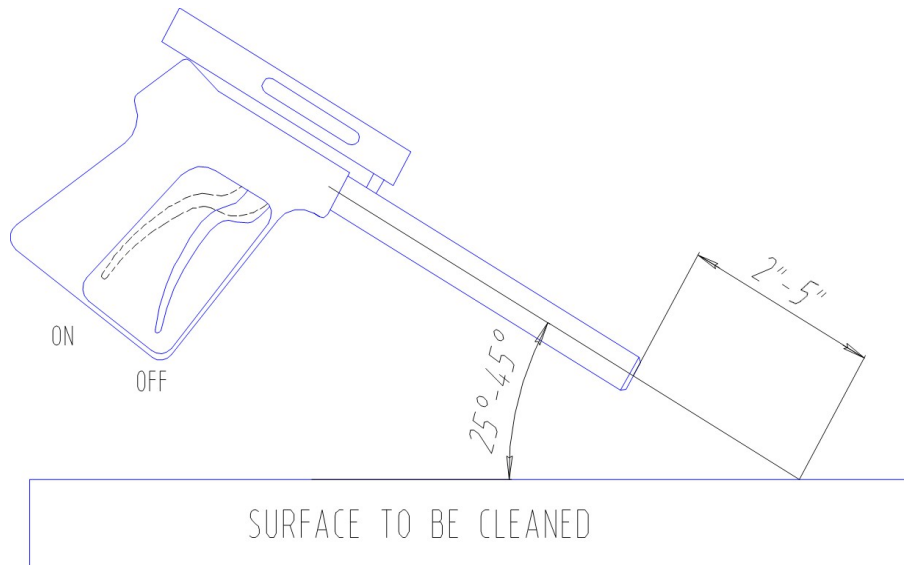

Figure 5.3 – Z/T-Gun Position for Best Results
When the diver is ready to commence cleaning operations, ensure that the Z/T- Gun / CaviDome trigger is in the open or “ON” position (**Figure 5.3**), the tool is submerged in the water and the feed pump is operating prior to throttling up the engine. Ensure that the power unit operator and other people working in the vicinity of the power unit wear appropriate hearing protection when the engine is running.
2. The most efficient operating technique with the Z/T-Gun is to hold the nozzle 2-5 inches away from the surface to be cleaned and at a 25-to-45-degree angle to the surface (**Figure 5.3**). The diver needs to observe the shape of the cavitating jet cone. At greater depths, the higher ambient pressure will cause the jet cone to be shorter. The widest zone of the cone is the most efficient part of the cavitating jet. Placing the nozzle closer than 2 inches from the surface being cleaned will not allow for efficient cavitation performance and will degrade the cleaning capability of the CaviBlaster system.